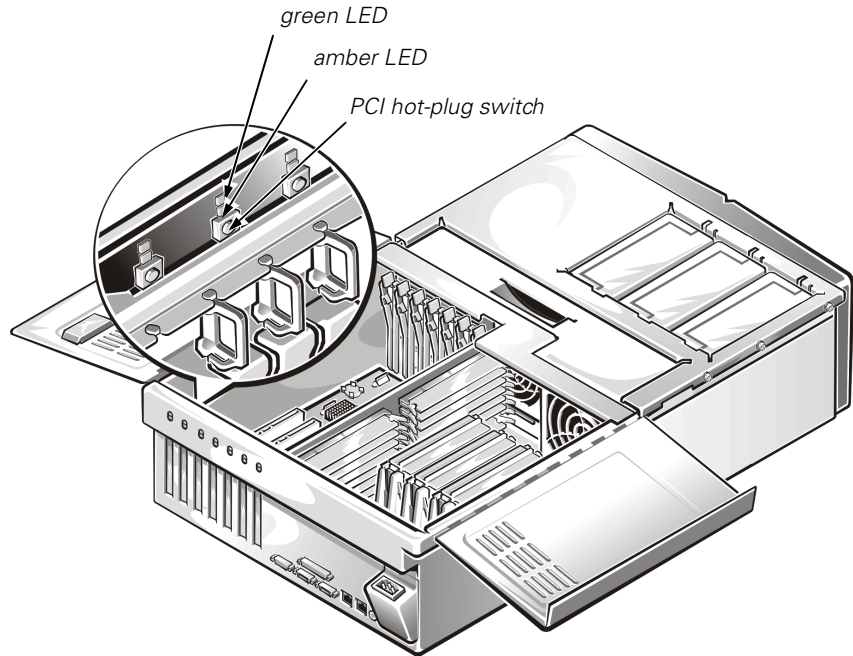

Figure 8-3. Hot-Plug PCI Board Features
Pairs of light-emitting diodes (LEDs) adjacent to each expansion slot display each expansion-card connector's current status (see Figure 8-3). Table 8-1 lists the various codes for the hot-plug LED indicators.
- If your computer uses the Windows 2000 operating system, press the switch next to the expansion slot to power down the expansion-card connector (see Figure 8-3), or run the **Unplug or Eject Hardware** control applet from the status bar.
- *If your computer uses the Windows 2000 operating system, press the switch next to the expansion slot to power down the expansion-card connector (see Figure 8-3), or run the **Unplug or Eject Hardware** control applet from the status bar.*
10. If your computer uses the Windows 2000 operating system, press the PCI hot-plug switch again to restore power to the expansion slot (see Figure 8-3).